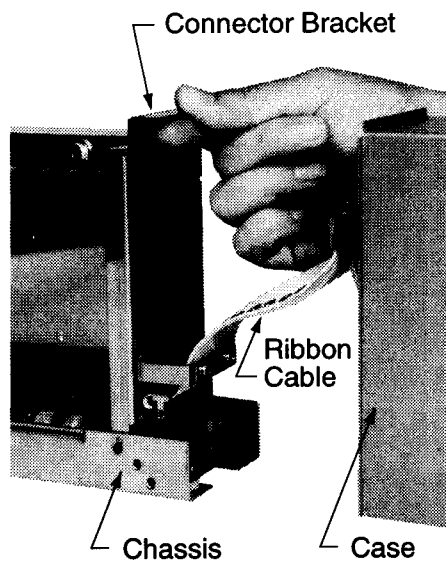

Figure 5-3-3. Pulling up the Connector Bracket
- c. Pushing upward the 3rd latch on the bottom of the chassis, disconnect the cable connector from the rear of the chassis. (Figure 5-3-3)